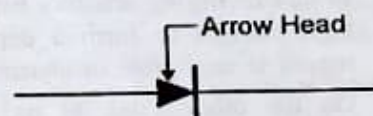

FIG. 2.25 : SYMBOLIC REPRESENTATION OF JUNCTION DIODE
- (1) The junction potential barrier is strengthened.
- (2) The junction offers a high resistance (called reverse resistance, R_r) to the flow of current through it.
- (3) Practically no current flows in the circuit but a little current (in microamperes) flows through the junction because of minority carriers available even at room temperature.
- This unidirectional current conduction makes it a perfect junction diode. Therefore, a PN junction is also called a semiconductor diode. It is also known as crystal diode. Its symbol is shown in Fig. 2.25.